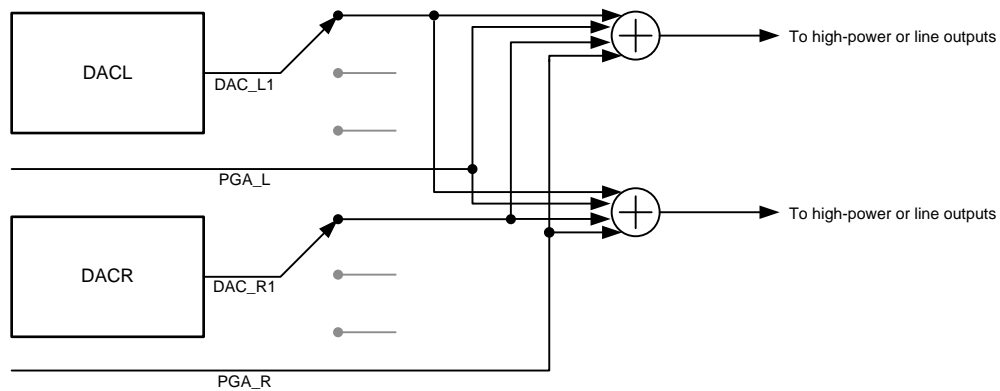

Figure 5. Mixer Path
- Figure 5 shows the mixer path. This mixer allows for routing multiple signal paths, such as the PGA output and the DAC output. The mixer result is routed to the headphone and/or line output.